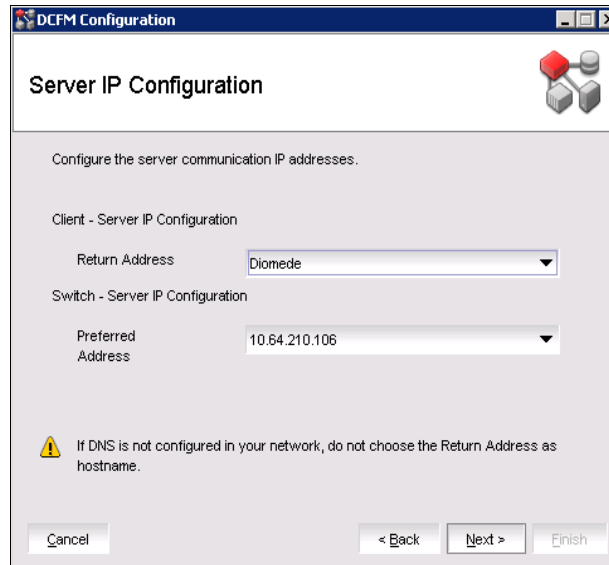

Figure 9-6 Server IP Configuration
11. Complete the following steps on the Server IP Configuration panel (see Figure 9-6) and click **Next**: